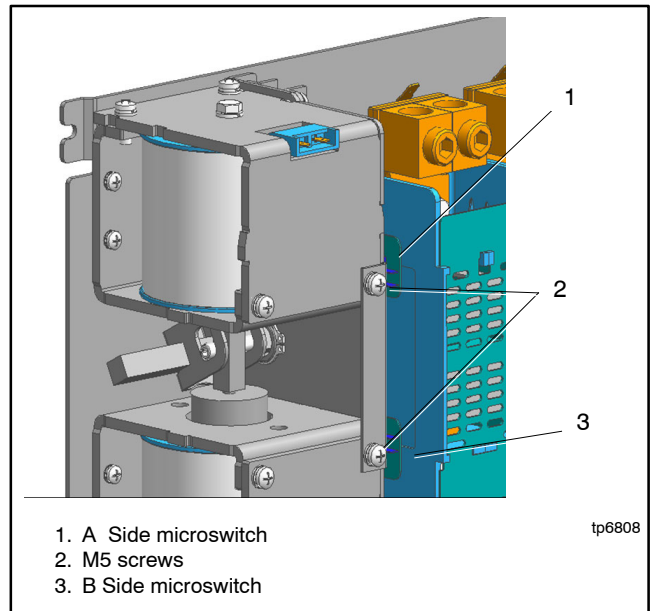

Figure 7-77 Microswitch Disassembly
1. Remove the two M5 screws. See Figure 7-77.